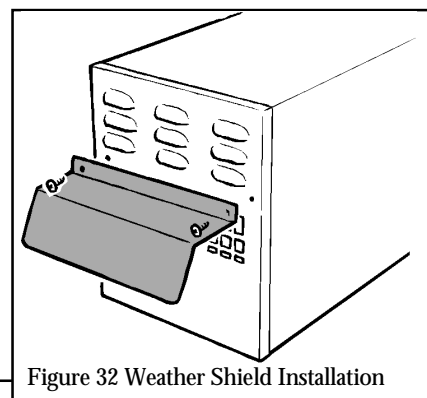

Figure 32 Weather Shield Installation
Fit the weather shield and guard to the back of the flue unit as detailed below (see figures 32 & 33).
10.2 Place the weather shield in position aligning the holes in the shield with those at the sides of the end plate. Secure with the two screws previously removed. see figure 32.